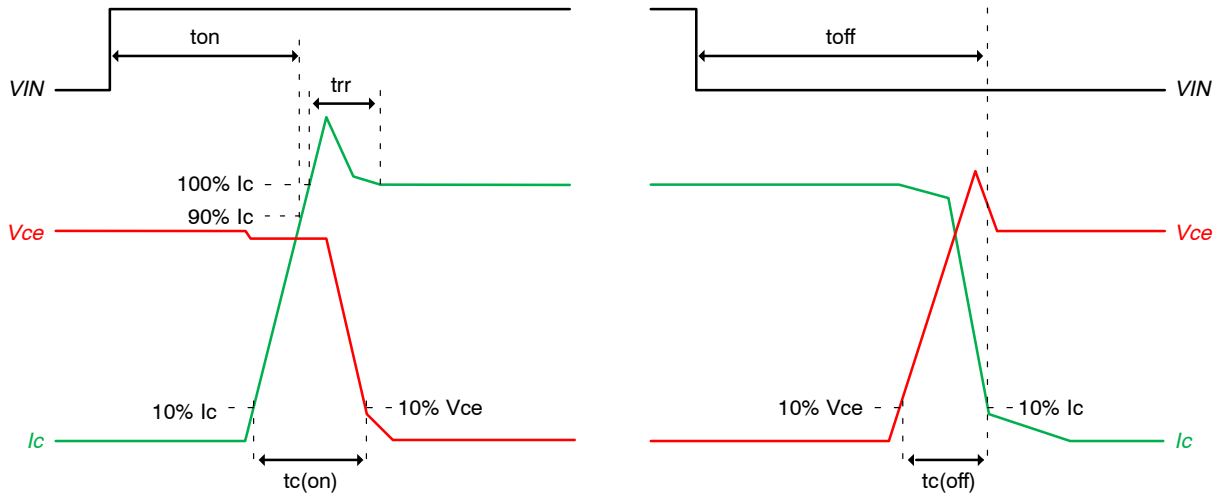

Figure 3. Switching Time Definition
4. ton and toff include the propagation delay of the internal drive IC. tc(on) and tc(off) are the switching times of IGBT under the given gate*driving condition internally. For the detailed information, please see Figure 3.